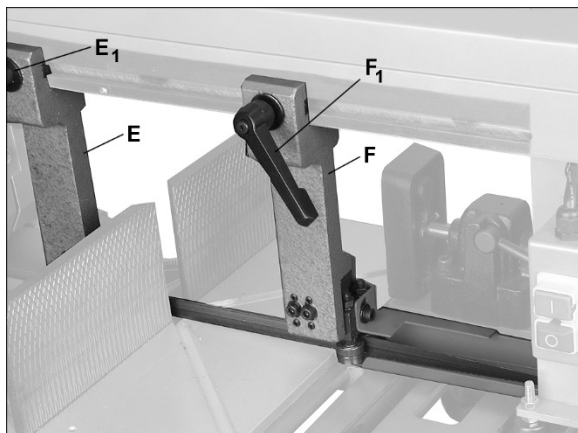

Figure 7-4: blade guide arm adjustment
2. The fixed blade guide arm (E, Figure 7-4) should be positioned as close to work area as possible, without interfering when bow is swiveled to an angle. Loosen screw (E_1) and slide arm as needed. Tighten screw before operating. (Once the fixed guide arm is properly positioned, it can generally remain in that position for all operations.)
3. The movable blade guide arm (F) should be as close as possible without interference to material being cut. Loosen handle (F_1) and slide arm as needed. Retighten handle before operating.